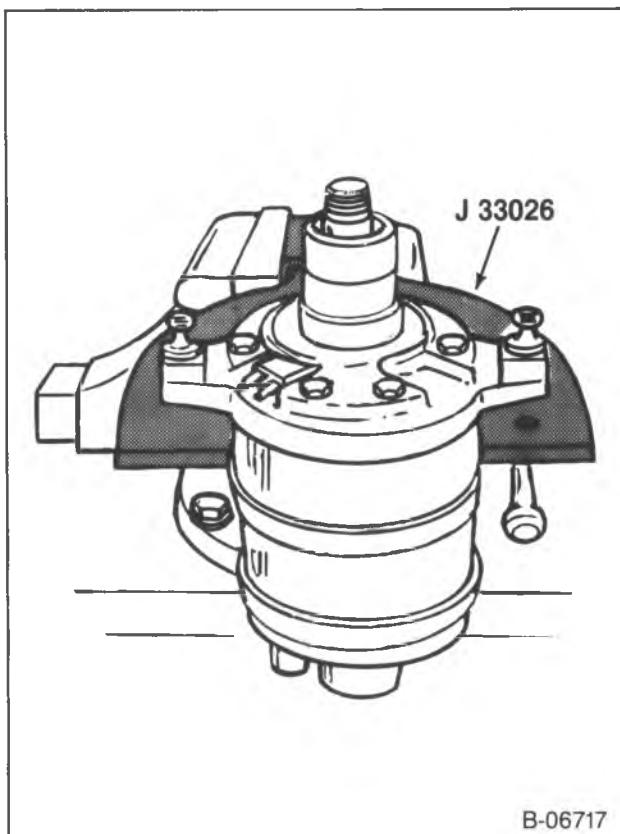

Figure 38—Installing the Compressor to J-33026
- Front head (11) is now assembled in the "standard" position and may differ 120 degrees either direction. Assemble front head (11) according to location marked before removal.
- Using both hands, press down on front head (11) for installation over the seal (15) at the front of the cylinder (16).
- 12. Through bolts (7) with new gaskets.
- Thread four of the through bolts (7) into the rear head (28) before removing J 33016 guide pins. Install two remaining through bolts (7) finger tight.
- Mount the compressor on J 33026 (figure 38).